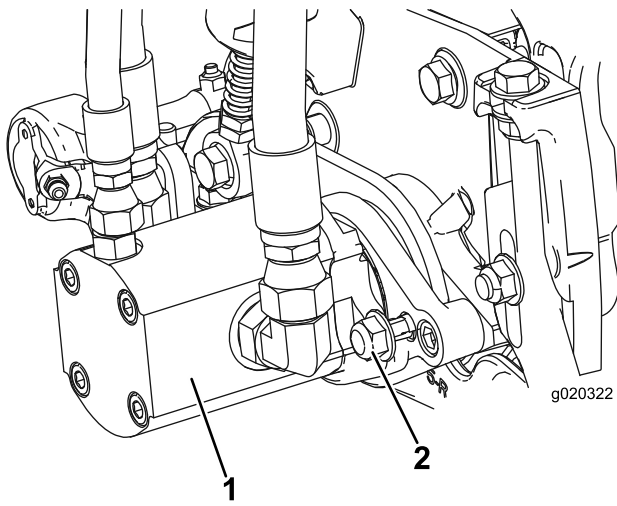

Figure 10
15. Install the motor by rotating it clockwise so that the motor flanges clear the lock nuts (Figure 10). Rotate the motor counterclockwise until the flanges encircle the nuts then tighten the nuts.